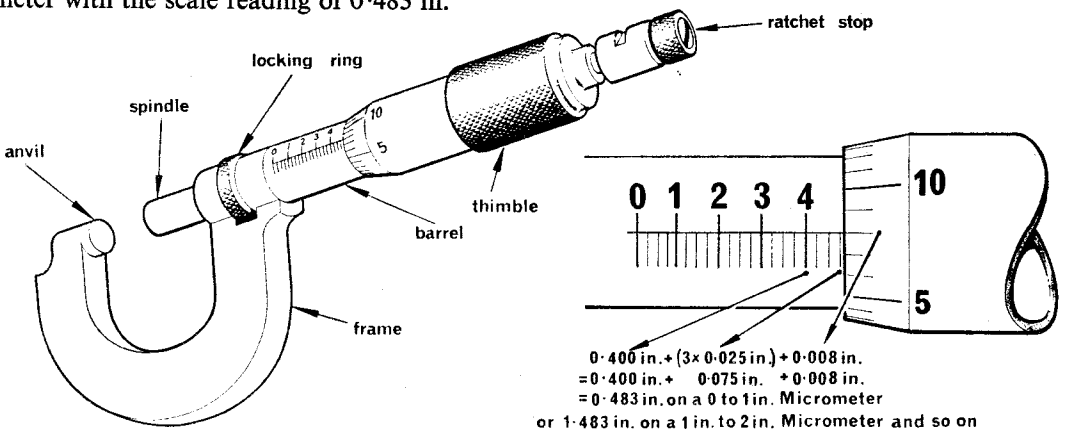

Fig. 28 Micrometer and scale
33. **Micrometer.** This is another precision instrument used for the accurate measurement of external diameters; usually of small wires in the electrical trades. Fig. 28 shows an external micrometer with the scale reading of 0.483 in.